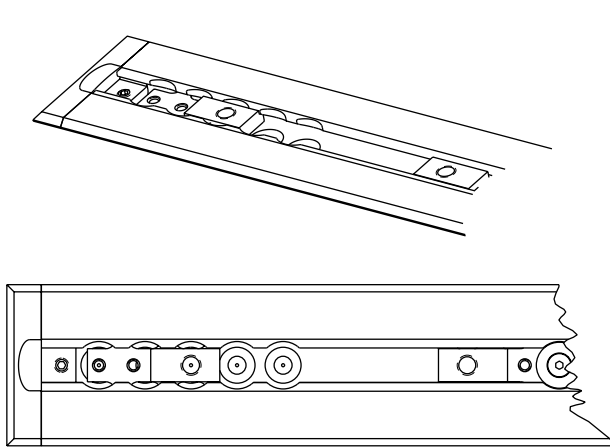

Figure 10: Insert Floor Plate Attachment Bracket
27. Insert a floor plate attachment bracket (6390-101-108) at the foot end of the vehicle patient compartment to install the safety hook (6390-001-148) (Figure 10). Line the notches with the tabs to insert, then slide the bracket into the floor plate assembly.